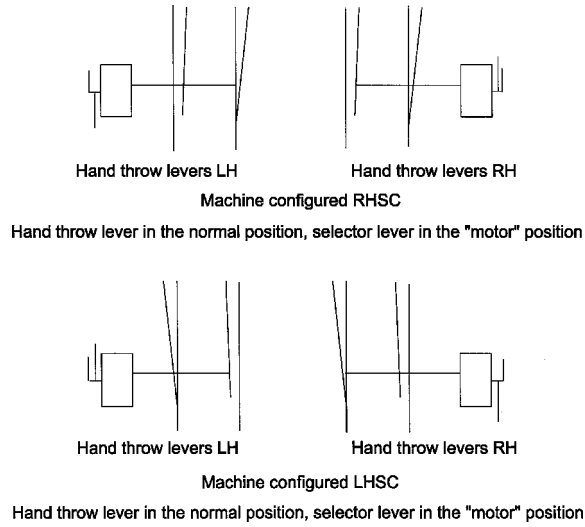

Figure 1.9 – M84 machine handing
2. Ensure that the machine is correctly configured RHSC (Right hand switch normally closed) or LHSC (Left hand switch normally closed) as appropriate - Figure 1.9. Check the handing plug within the machine.